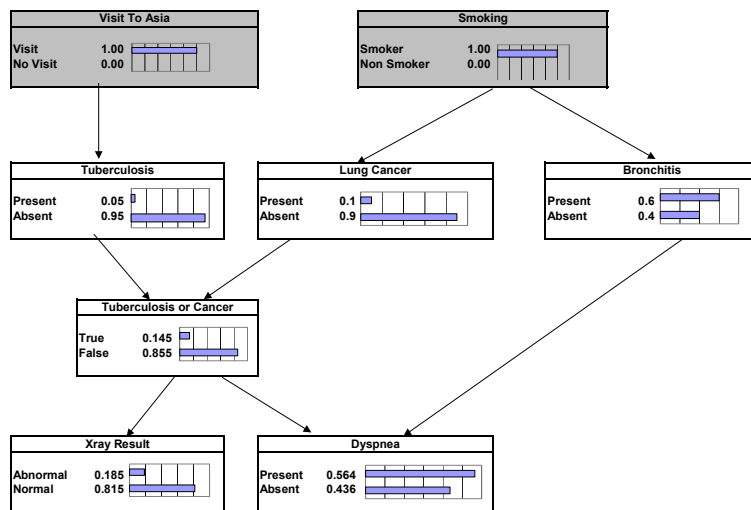

Figure 16c. Updating Probabilities Based on Visit to Asia and Smoking
- Further updates can be made based on knowing the patients to be a smoker, and based on test results of X-ray and dyspnea as shown in Figures 16c, 16d, and 16e, respectively.